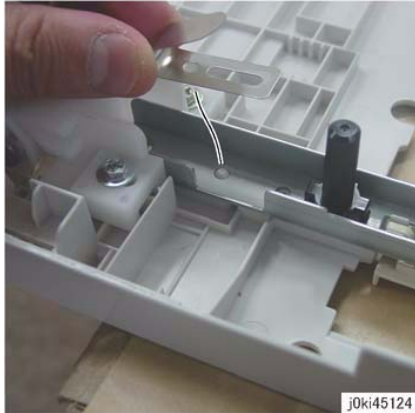

Figure 4 Ground Plate Alignment
- (1) Remove the self-tapping screws (Large: x2).
- (2) Remove the Left Counter Balance.
3. Align the Ground Plate to the positioning boss. (Figure 4)